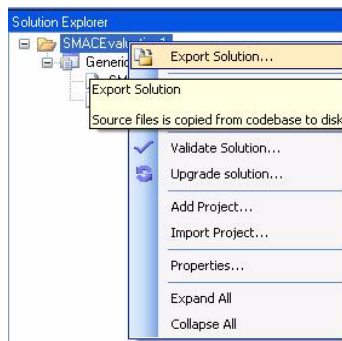

Figure 7. Exporting a Solution
7. Users must now export the solution as shown in Figure 7.